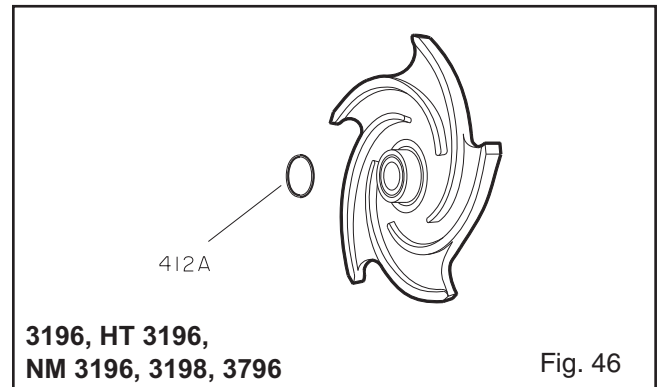

Fig. 46
- Remove impeller O-ring (412A) and discard (Fig. 46, 47, 48). Replace with a new o-ring during reassembly.
7. Remove impeller O-ring (412A) and discard (Fig. 46, 47, 48). Replace with a new o-ring during reassembly.